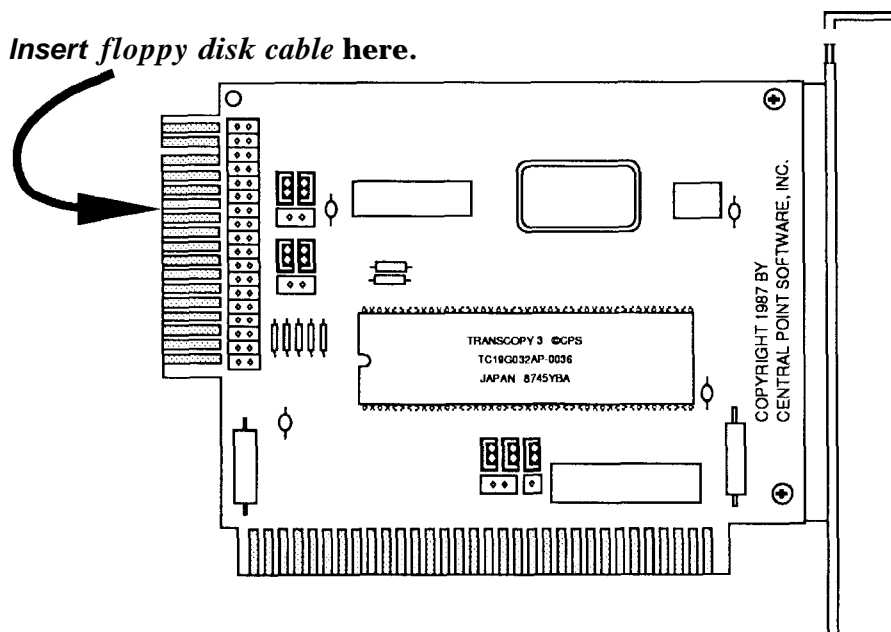

Figure 9
3. Connect the floppy disk controller cable to the gold edge connector on the end of the Deluxe Option Board, with the cable's red line in the UP position (See Figure 9).